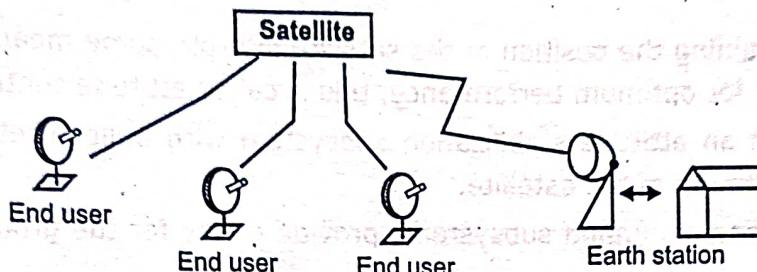

Fig. 5.7: VSAT Communication System
- As shown in Fig. 5.7, there is a **HUB** or **earth station**. It is also called as **central office**. This HUB is connected with various end users via satellite.